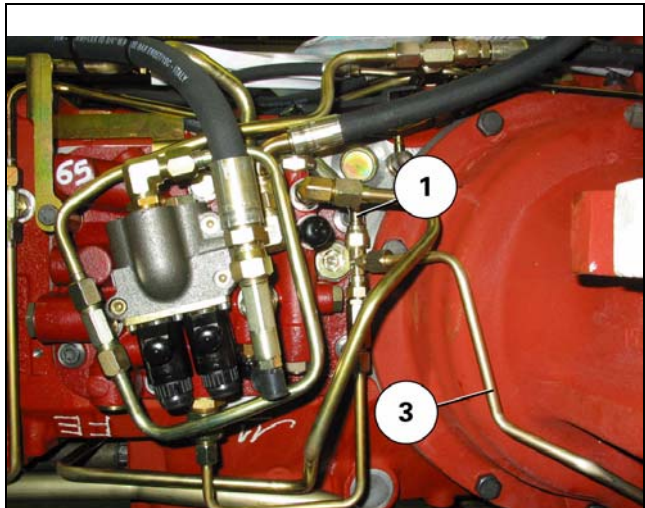

Fig. 3
7. Disconnect the hose (1) or (3) and the brake lubricating pipe(s) (Fig. 3).